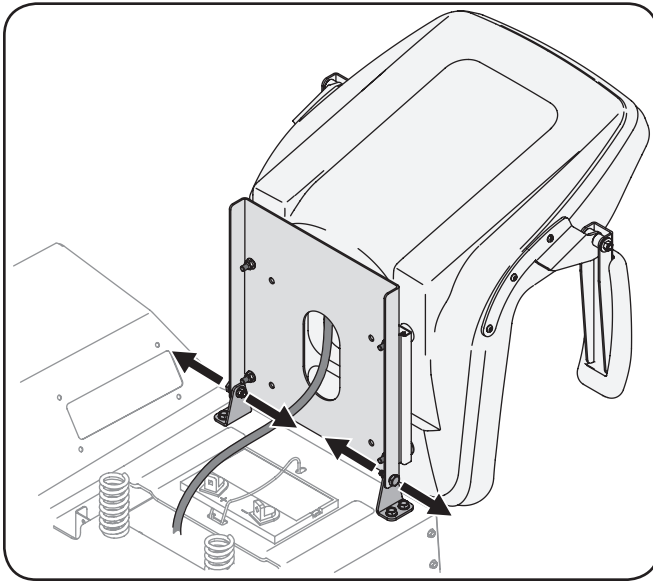

Figure 3-6
2. Remove the two shoulder bolts and lock nuts in the seat pan as shown in Fig. 3-6.